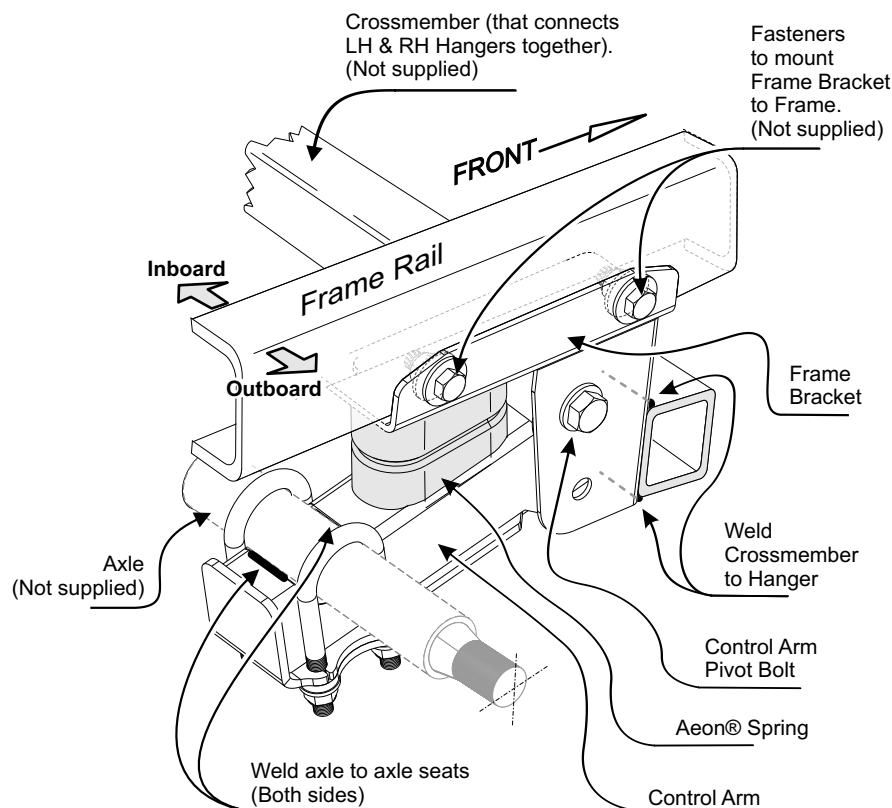

Fig. 2 View of the passenger side suspension on the trailer
- 2) Locate left and right frame brackets on frame rails, opposite to each other. The inboard faces of each frame bracket must mate corner faces of frame rail (fig. 2). Move frame brackets along frame until the center of axle seats line up with marks on the frame rails, viewing from top. Clamp frame brackets to frame.
- 4) Install crossmember: Make a crossmember using a 2"x2"x1/8" structural steel tube section. Locate crossmember at front face of LH and RH hangers. Tack weld and then weld crossmember to both sides when hangers are perpendicular to the bottom surface of trailer and crossmember is parallel to that surface (fig. 2).
- 7) Weld axle seats to axle (along axle only), as shown in fig.2. **DO NOT weld U-bolts.**